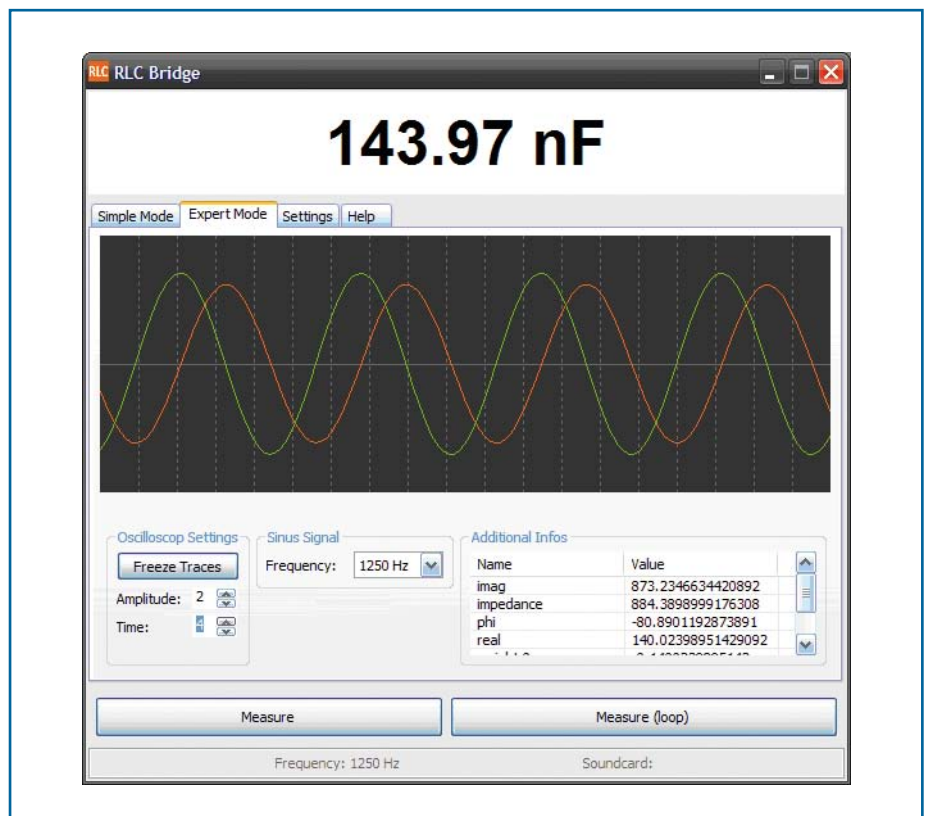

Figure 6. How the software displays its results on the screen.
**Figure 6** shows the graphical user interface. Clicking on the relevant tabs